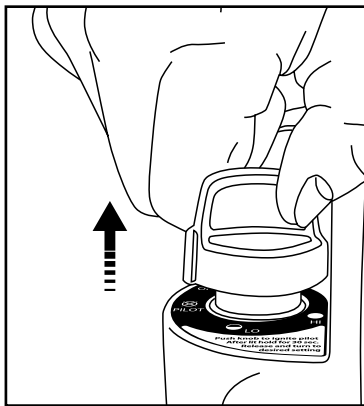

Figure 4: "Release knob."
- After pilot lights, hold down for 30 -60 seconds and then release knob. Knob should return to fully extended position; see Figure 4. To operate heater slightly depress knob and gently turn to lock in the "HI" position to light burner tile. Leave on "HI" position until burner tile turns bright orange.